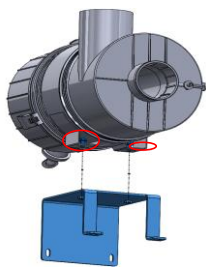

fig. 1
1. Fasten the Air Cleaner Bracket (9) onto the Air Cleaner Assembly (2) using two M8x1.25-16 bolts (11) and M8 Nuts (10) as shown in figure 1.